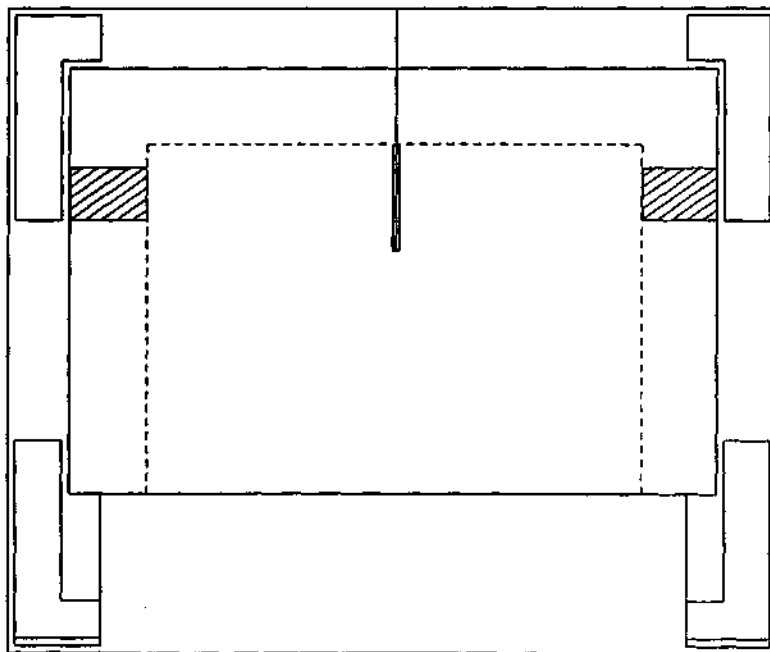

Figure 2
3. Place the muffle P/N 50005 on the 4 ceramic supports carefully introducing at the same time the thermocouple through the hole in the backwall of the muffle itself (Figure 2)
4. Cover the end of the thermocouple placed inside the muffle with the ceramic protection tube P/N 50064 (Figure 2).